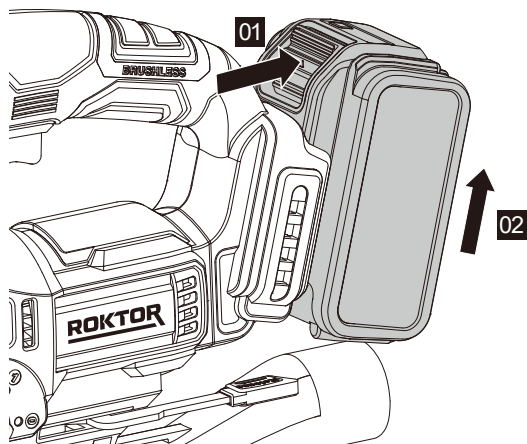

Figure 5-1
4. REMOVING & INSTALLING THE BATTERY PACK (NOT SUPPLIED) (SEE FIG. 5-1 & 5-2)